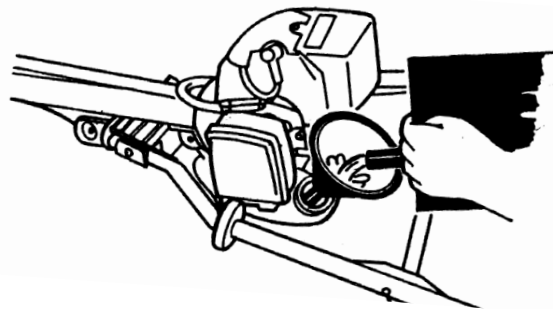

FIG 10
**⚠ WARNING** Fill or add fuel to the tank only when the edger is in a horizontal position as shown (Fig. 10). Allow engine to cool down for at least 5 minutes before adding fuel. Use a fuel funnel (not supplied) to prevent spills.